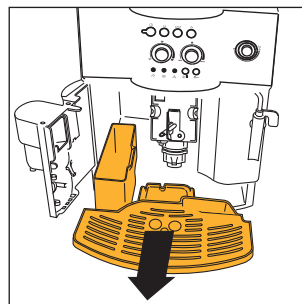

Fig.16
NOTE 7: the machine counts the number of cups of coffee made. Each 14 single cups (or 7 double cups), the ☞ light switches on steady (chap. 12 point 3), warning the user that the grounds container is full and must be emptied and cleaned. Until the grounds container has been cleaned, the light will remain on and the machine cannot deliver coffee. To clean, open the service door at the front by pulling the spout (fig. 15). The ☞ light flashes (see par. 12 point 9). Remove the drip tray (fig. 16), empty and clean. Empty and carefully clean the grounds container, making sure to remove all the residues that may be deposited on the bottom. Also dry any drops of condensate that may have formed inside the machine under the drip tray. **IMPORTANT:** when removing the drip tray, the grounds container **MUST** be emptied, even if it is not completely full. If this is not done, when next making coffee the grounds container may fill over the maximum level and block the machine with lumps of coffee grounds.
- remove the drip tray and the grounds container (Fig. 16) and clean them;